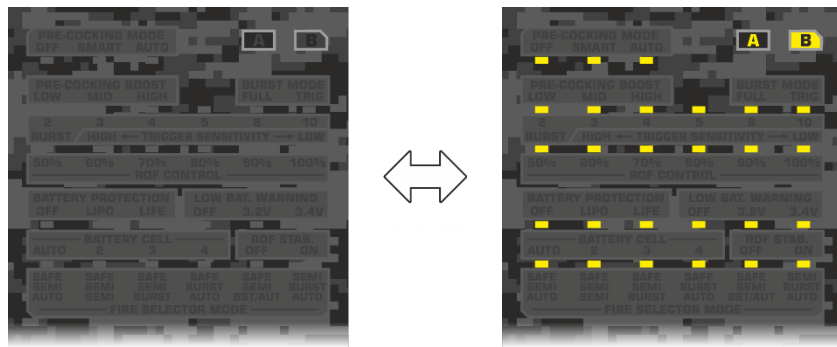

Fig.8
- All LEDs blink continuously – TITAN Drop-In Module is not connected (Fig.8).